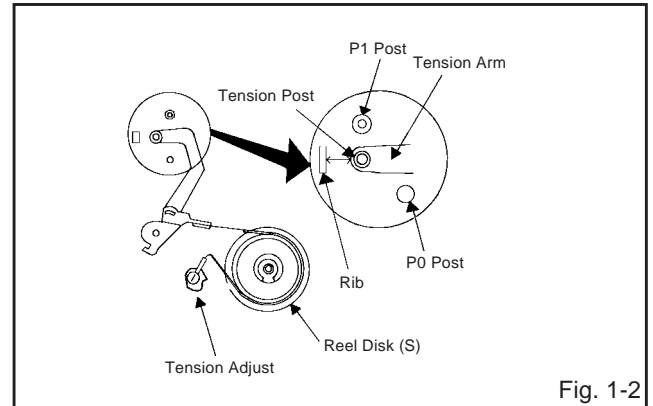

Fig. 1-2
1. Turn on the power and set to the PLAY mode adjust the Tension so that the Tension Post is at the position of $0.3\text{mm} \sim 0.5\text{mm}$ from the Rib. (**Refer to Fig. 1-2**)